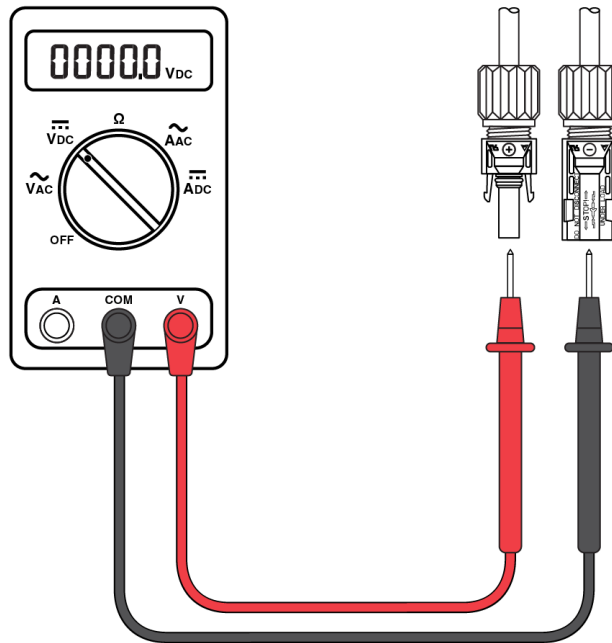

Figure 9: Check the polarity and gender for PV string
7. Follow your procedures and safety protocols to measure the voltage and verify the polarity for the string of modules being connected to Input 2. See Figure 9.